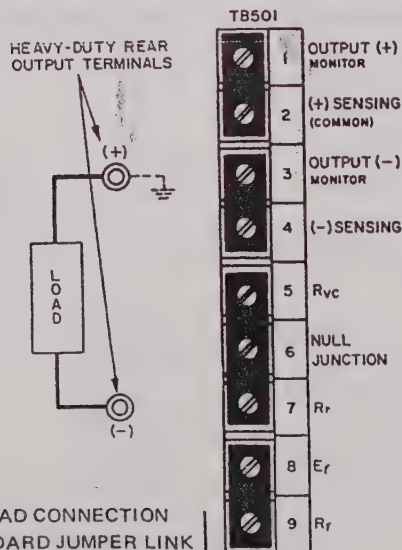
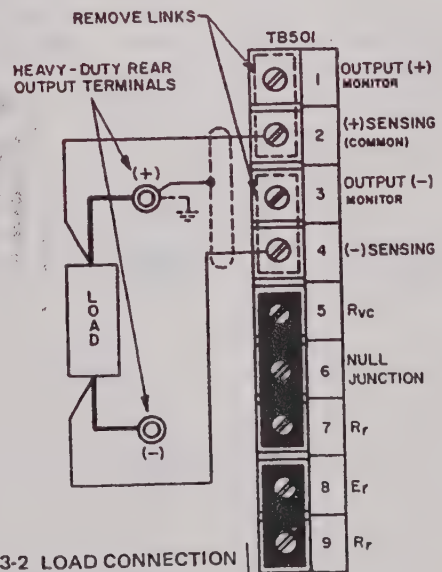

FIG. 3-1 LOAD CONNECTION AND STANDARD JUMPER LINK CONNECTIONS WITHOUT ERROR SENSING
FIG. 3-2 LOAD CONNECTION USING REMOTE ERROR SENSING
- 3-2 GENERAL. The Power Supply is shipped from the factory with five (5) removable jumper links in place at the rear barrier strip (TB501) as shown in FIG. 3-1. THESE LINKS MUST BE IN PLACE AND SECURED TIGHTLY for standard local operation. Loose terminal links or wires at the barrier strip will cause malfunction of the power supply.
- 3-3 LOAD CONNECTION. The load may be connected in any of the two ways illustrated (FIG. 3-1,3-2). Load connecting wires should be as heavy as practicable, since load wire voltage drops will degrade regulation performance. Twisting of load wires will help to preserve the low output impedance of the power supply. To keep the DC voltage drop in the load connecting wires to a minimum, and to preserve the dynamic characteristics of the power supply (AC stability, output impedance and recovery time), load wires and error sensing leads should be as short and as large in diameter as practicable. Both lead pairs should preferably be tightly twisted. For minimum ripple and noise pick-up, the error sensing leads must be shielded. The shield, as well as one side of the output (preferably the positive), should be returned to the common ground point (Refer to FIG. 3-2)
- 3-5 Specified regulation performance DIRECTLY AT THE LOAD requires the use of remote error sensing. A twisted, shielded pair of wires from the sensing terminals directly to the load will compensate for load wire voltage drops up to 0.5 volt per wire (Refer to FIG. 3-2). Observe polarities: The positive sensing wire [from terminal (2)] goes to the positive load wire.